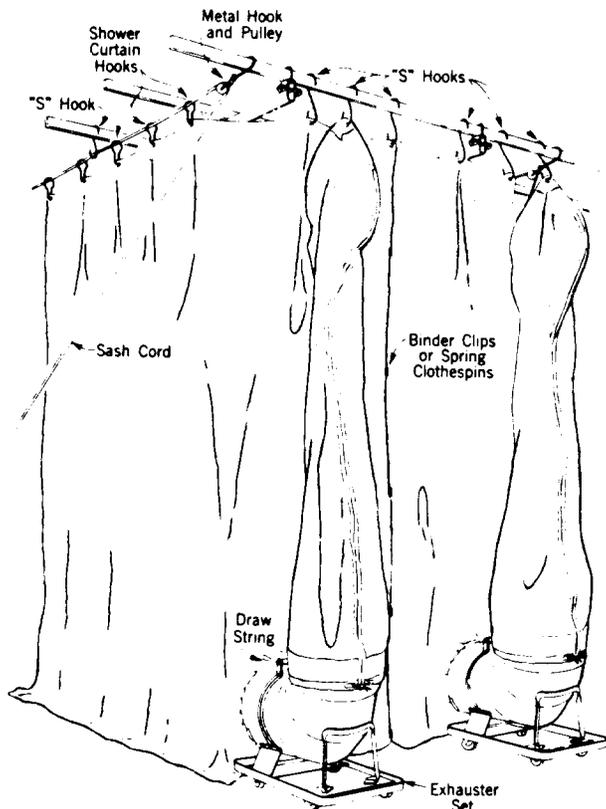

Fig. 4—Curtains With Exhauster Sets in Place
4.07 Add insulated "S" hooks as necessary to prevent excessive sagging. The tops of the curtains should be as close as possible to the underside of the overhead cable racks or superstructure in order to minimize the possibility of loosened dust from escaping outside the enclosure. (See Fig. 4.)
ends of the curtain may be pushed into the space between the upright supports of adjacent frames. (See Fig. 4.)
**4.11** Attach the curtains to the exhauster sets with the intake side of the exhauster inside the enclosure. The drawstring should hold the curtains securely attached to the exhauster. (See Fig. 4.) The removable length of metal chain shall be in place in the hem at the bottom of the curtain centrally located below the exhauster openings in order to weight this portion of the curtain to the floor.